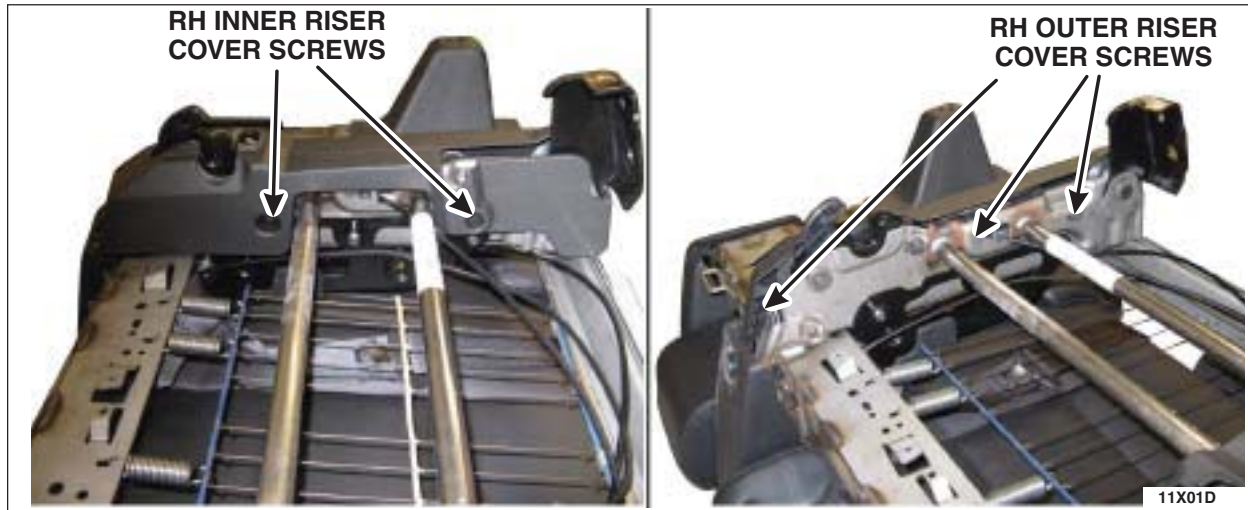

FIGURE 4
9. Remove the RH riser covers. See Figure 4.